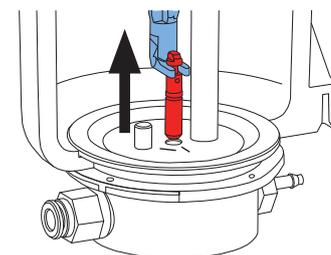

fig. 11
- Hold the dosing nozzle with the tool and pull upwards (fig. 11).